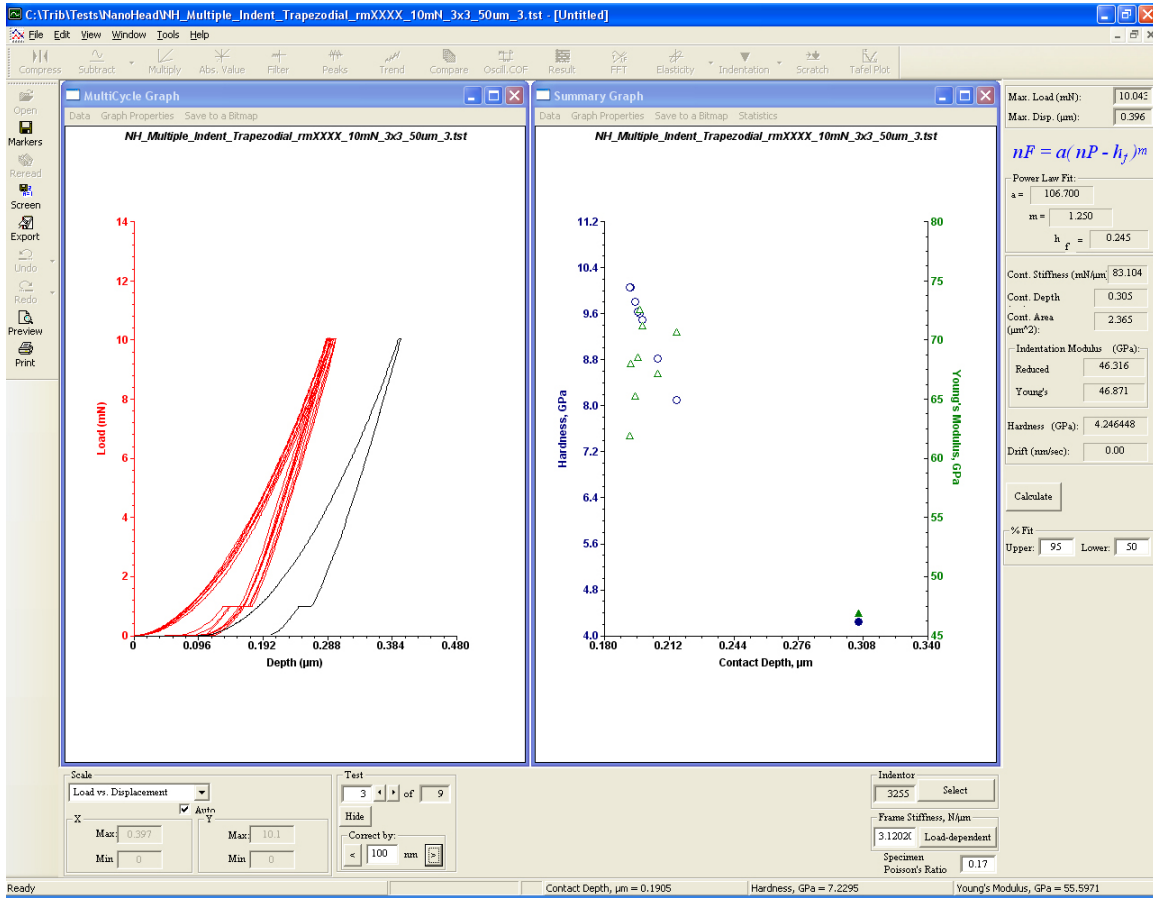

Figure 27: Improper contact point.
- 5) Figure 27 shows an indent that is shifted by 100nm to the right and once corrected by the 100nm lies more in line with the other data points.